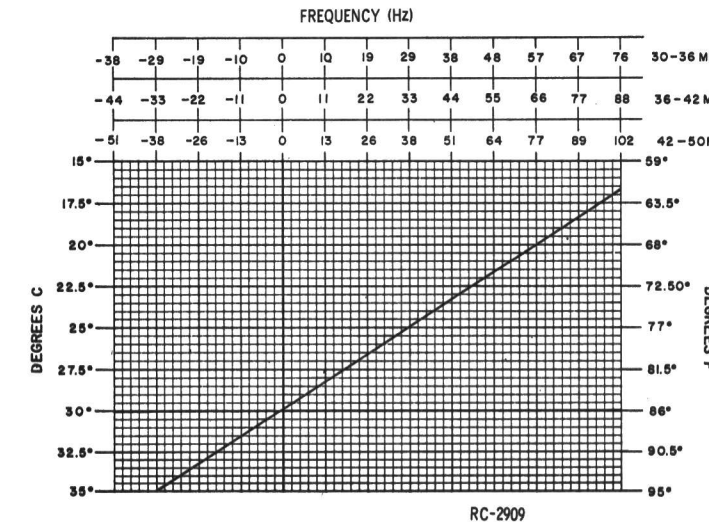

Figure 3 - Frequency Offset Chart
First, check the frequency to determine if any adjustment is required. (Refer to frequency offset chart, Figure 3). The frequency measurement requires equipment with an absolute accuracy that is 5 to 10 times better than the tolerance to be maintained. When adjusting the frequency, the entire radio should be as near as possible to an ambient temperature of 30°C (86°F).
To set crystal frequency using "beat frequency" method, the temperature should be at 30°C (86°F). If the temperature is not 30°C, then offset the "ON FREQUENCY" signal (at the receivers input), as a function of actual temperature, by the frequency ERROR FACTOR shown in Figure 3.
- Maintain the radio at 30°C (±5°C, -10°C) and offset the oscillator, as a function of actual temperature, by the frequency error shown in Figure 3.